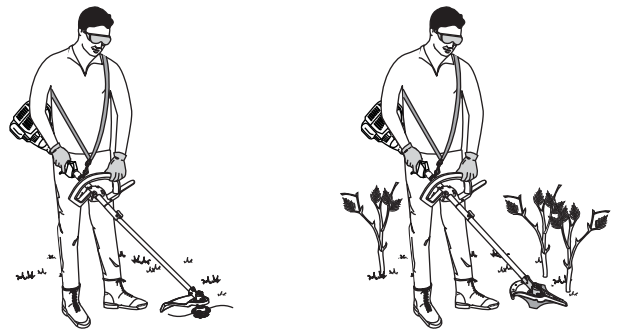

Fig. 13
- Stand in the operating position (Fig. 13). Stand up straight. Do not bend over.